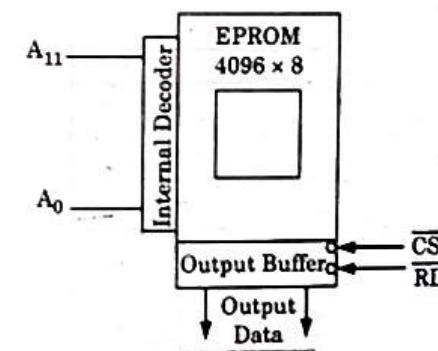

Fig. 1.20.1.
- i. Microprocessor places a 16-bits address on the address bus and with this address only one register is to be selected. From Fig. 1.20.1, it is clear that only 11 address lines are required to identify 2048 registers.